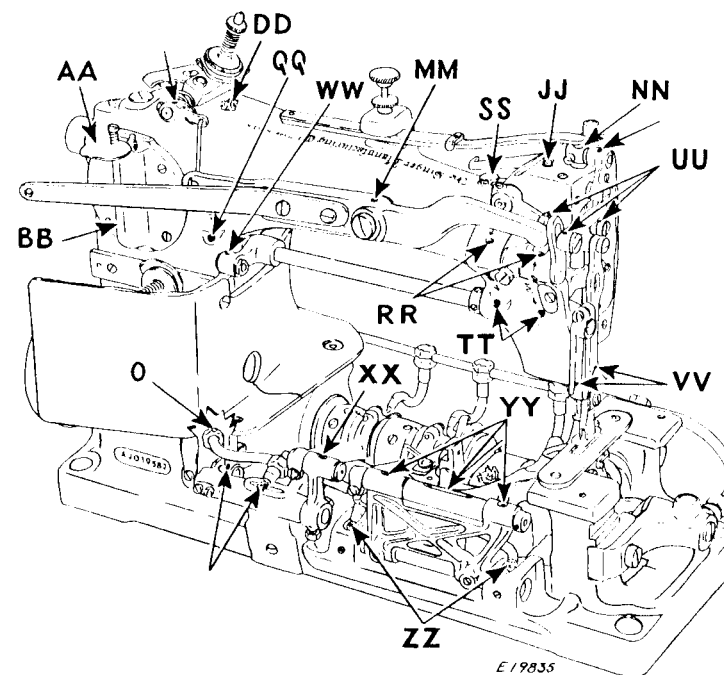
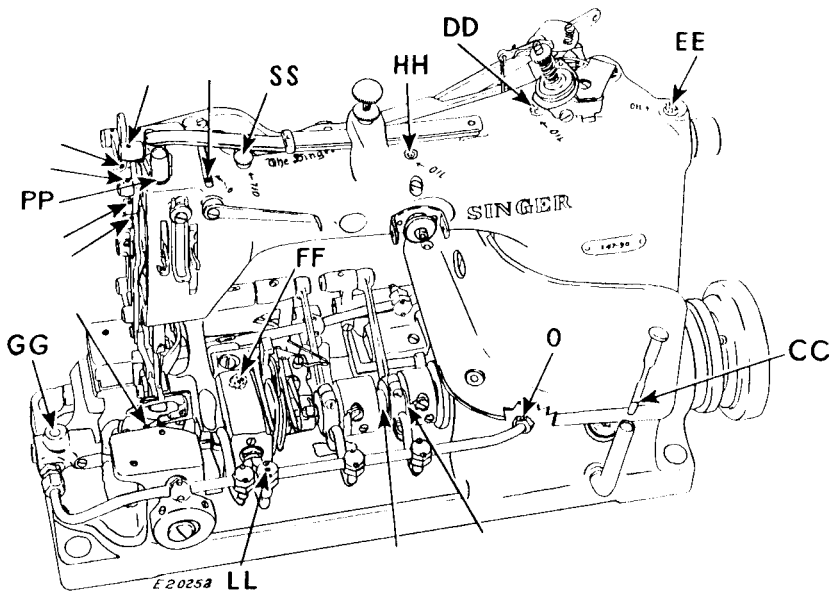

Fig. 2. Priming and Oiling Points at Rear of Machine
Fig. 3. Priming and Oiling Points at Front of Machine
NOTE:—It is not necessary to remove the cloth plate for the first servicing or subsequent oiling of the machines. For this purpose merely remove the right-hand slide plate. The cloth plate and throat plate are removed in Figs. 2 and 3 for clearer illustration only.
1. Lift and turn aside the cover **AA**, Fig. 2, and apply oil to filler **BB**, Fig. 2, until the oil stands at the mark **CC**, Fig. 3, on the gauge. The oil must be maintained at this level. After applying oil to the filler, turn the cover to closed position.
2. Saturate the wicks at **DD** and **JJ**, Fig. 2.
3. Apply oil to all oil holes or troughs marked "OIL" and at all other places indicated by unlettered arrows in Figs. 2 and 3.
4. Apply a drop of oil to **MM**, Fig. 2, for the foot lifter lever, and at **NN**, Fig. 2, where the presser bar passes through its bushing.
5. Apply a few drops of oil at the points **QQ**, **RR**, **TT**, **UU**, **VV**, **WW**, **XX**, **YY**, and **ZZ**, Fig. 2.
6. Fill the main oil pipe to overflowing through the oil hole **LL**, **Fig. 3**. This is **important**, as it primes various oil wicks.
7. Saturate the wicks at **EE**, **FF**, **GG** and **HH**, **Fig. 3**.
8. Fill the oil cup **SS**, **Fig. 3**.
9. After a machine has been running at a moderate speed for approximately five minutes, stop it and let it stand idle for a few minutes. Then check the oil in the reservoir and, if necessary, add sufficient oil to bring the oil level to the mark **CC**, **Fig. 3**, on the gauge.
1. Apply oil to the filler **BB**, **Fig. 2**, as instructed in step 1 on page 5. Never permit the level of the oil to become lower than 1/4 inch below the mark **CC**, **Fig. 3**, when the machine is at rest.
2. Fill the oil cup, **SS**, **Fig. 3**, twice daily.
The letter "o" marked on oil pipe couplings **O**, **Fig. 2** and **3**, must always be at the top. This is to insure that the oil spoon, attached to the inner end of each coupling, is open side up to receive the oil.